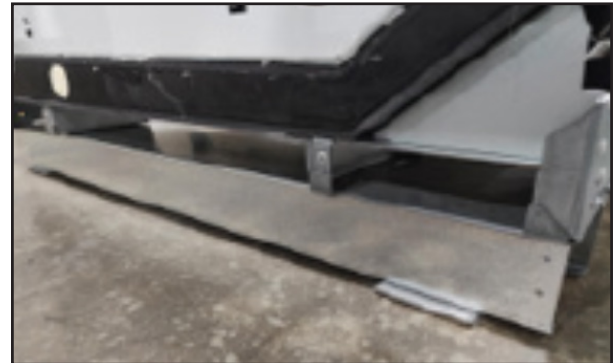

Fig. 38 Case over hat-sections
6. Check the alignment at the front/rear and now place the case over the hat-sections (Fig. 38).